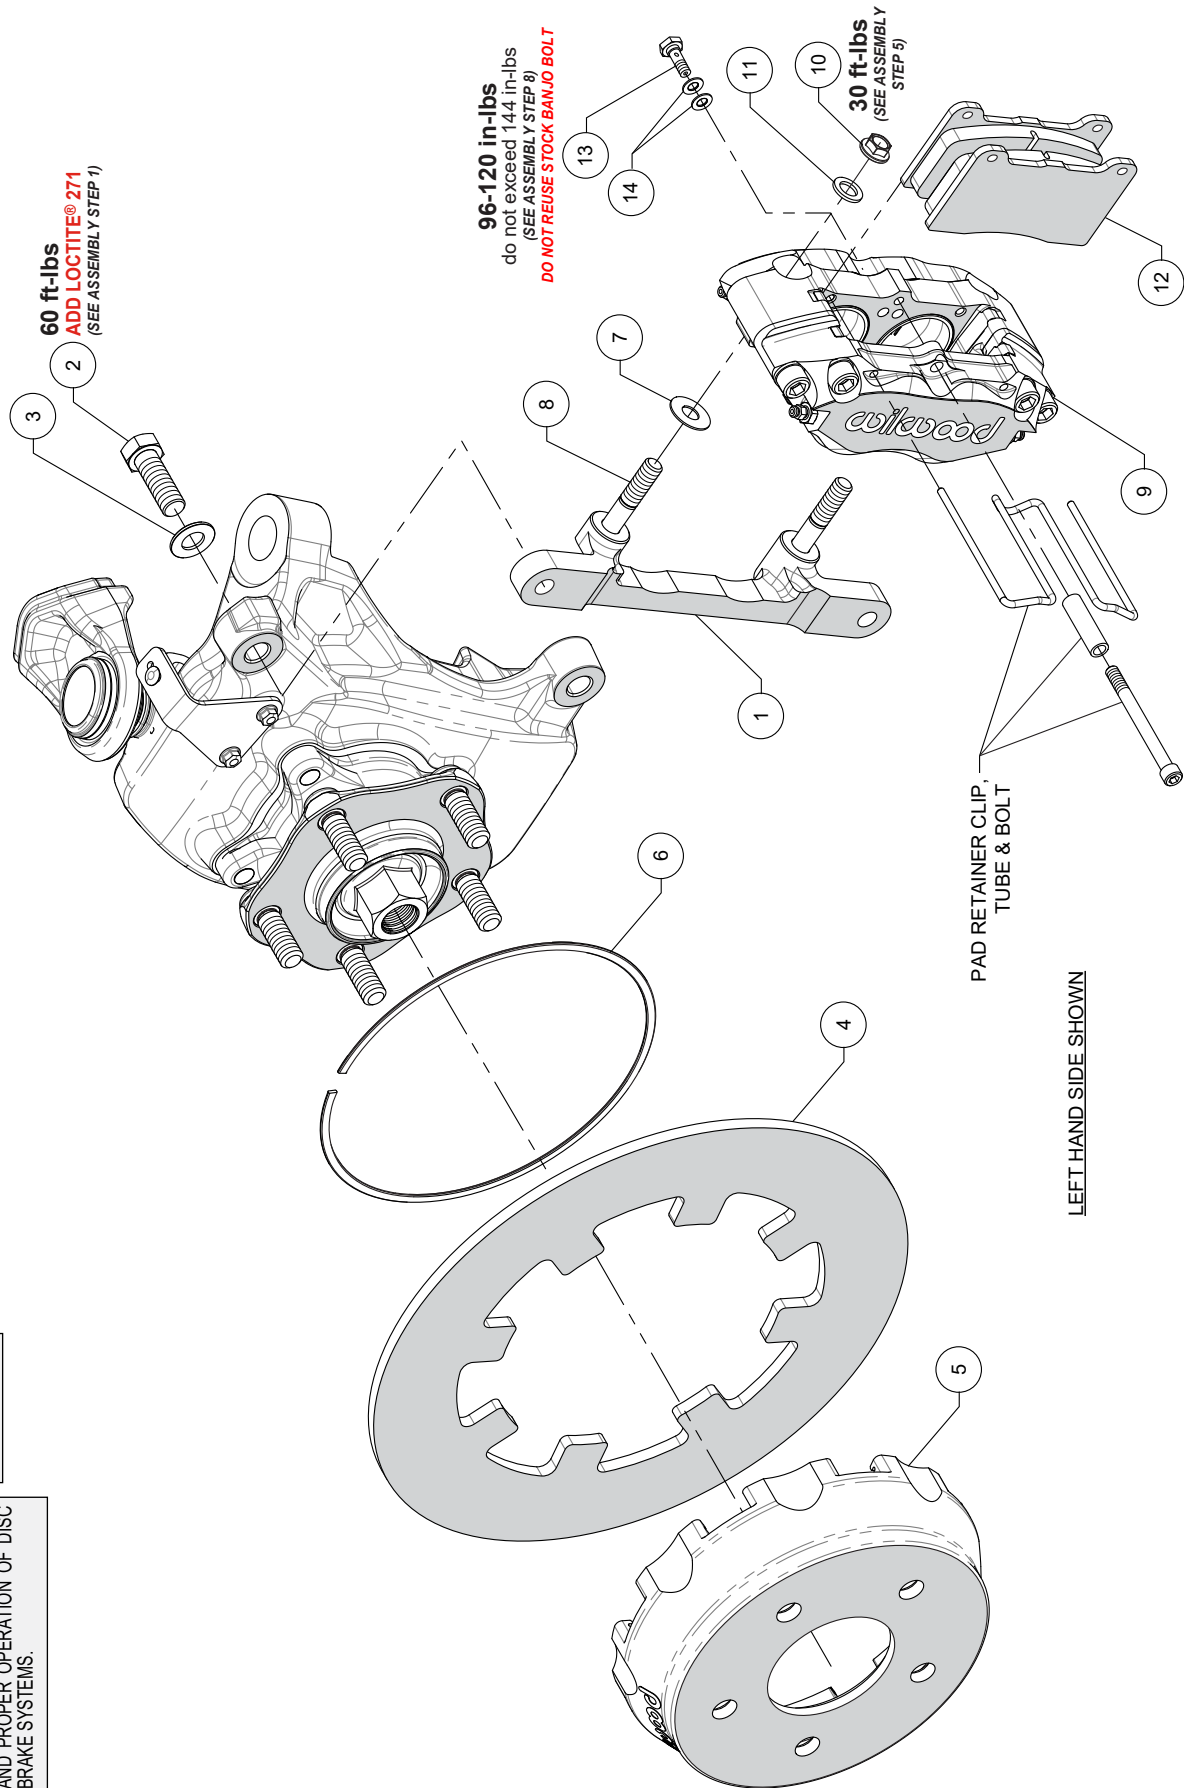

Figure 1. Typical Installation Configuration
**NOTE:** Numbers in parenthesis refer to the parts list and Figure 1 on the preceding pages.
**STEP 1** The caliper mount bracket (1) should initially be installed with clean, dry threads on the mounting bolts. Orient the bracket, as shown in Figure 1 and Photo 1, and install using bolts (2) and washers (3). **NOTE:** The bracket must fit squarely against the mount bosses on the upright. Inspect for interference from casting irregularities, machining ridges, burrs, etc. Remove bolts (2) one at a time, apply red *Loctite*® 271 to the threads and torque to value shown in Figure 1.
**STEP 2** Position the rotor (4) onto the hat (5), making sure the rotor lugs fit into the recesses of the hat, as shown in Photo 2.
**STEP 3** Secure rotor to the hat using the snap ring (6) by installing the ring into the groove in the hat, as shown in Photos 3 and 4. **Carefully inspect snap ring to ensure complete engagement in the groove.**
**STEP 5** Initially place one .035" thick shim (7) on each stud (8) between the caliper (9) and the bracket (1), as shown in Figure 1 and Photo 6. Mount the caliper (9) onto the bracket (1) using lock nuts (10) and washers (11), Figure 1. Temporarily tighten the lock nuts. **NOTE:** Adding or subtracting shims (7) on stud (8) will affect caliper-to-wheel clearance depending on the type of wheels used. Some wheels may be closer at the top of the caliper and some at the bottom. Carefully install wheel, torque lug nuts to manufacturer's specification and check that there is adequate caliper-to-wheel clearance. If more clearance is needed, add or subtract shims (7) until proper clearance is achieved. **CAUTION:** Ensure that stud (8) completely passes through nut (10) with use of shims (7). Once there is sufficient caliper-to-wheel clearance, remove wheel and torque lock nuts (10) to value shown in Figure 1.
**STEP 6** Remove the pad retainer bolt, tube, and clip from the caliper (9). Insert the brake pads (12) into the caliper with the friction material facing the rotor, as shown in Photo 7. Secure the brake pads in place with the pad retainer clip, then the tube, and bolt, Photo 8.
**STEP 8** Attach brake line to caliper. Connect OEM brakeline to caliper using banjo bolt (13) and crush washers (14). Do not use lubricant or thread sealant on banjo bolt (13). Torque to minimum value shown in Figure 1. Check for leakage, increasing torque only to stop leakage without exceeding maximum specification. Replace crush washers and banjo bolt whenever reassembly is required. **Ensure hoses are routed to prevent contact with moving suspension, brake or wheel components.**